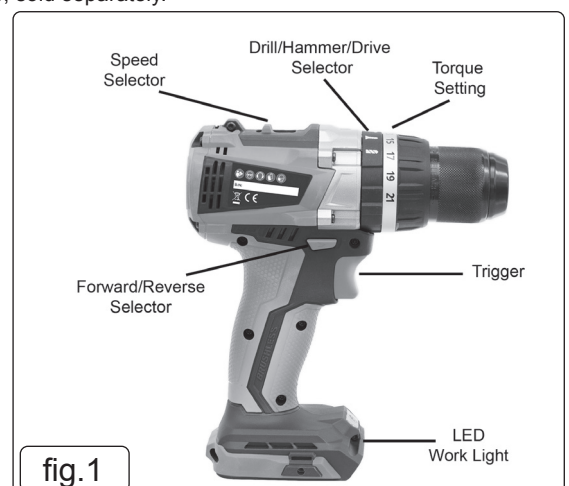

fig.1
- 4.2. **USING THE DRILL (fig.1)**